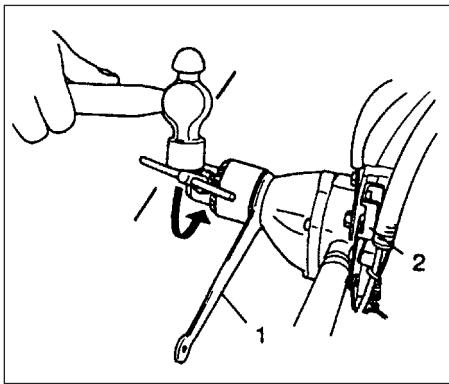

Fig. 2-6
- To tighten the chuck more securely, set a 19mm spanner (1) between gear case and drill chuck to lock drive shaft. Turn on lock lever (2) then hit the mounted chuck handle with a hammer to screw in (clockwise) the chuck. (TED-270PFL/270PFLS/270PFDH/270PFDS/270PFHS) (Fig. 2-6)